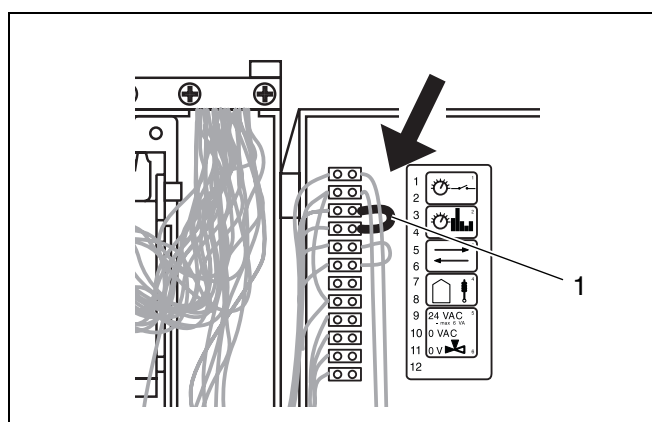

Fig. 22 Connection box in burner-control unit - 24 Volt connection
- A radio frequency room-temperature control device at 24 Volt connected to the connection plate see fig. 22, item 1.
- Connect the 24 Volt radio frequency room-temperature control device at fig. 22, item 1.